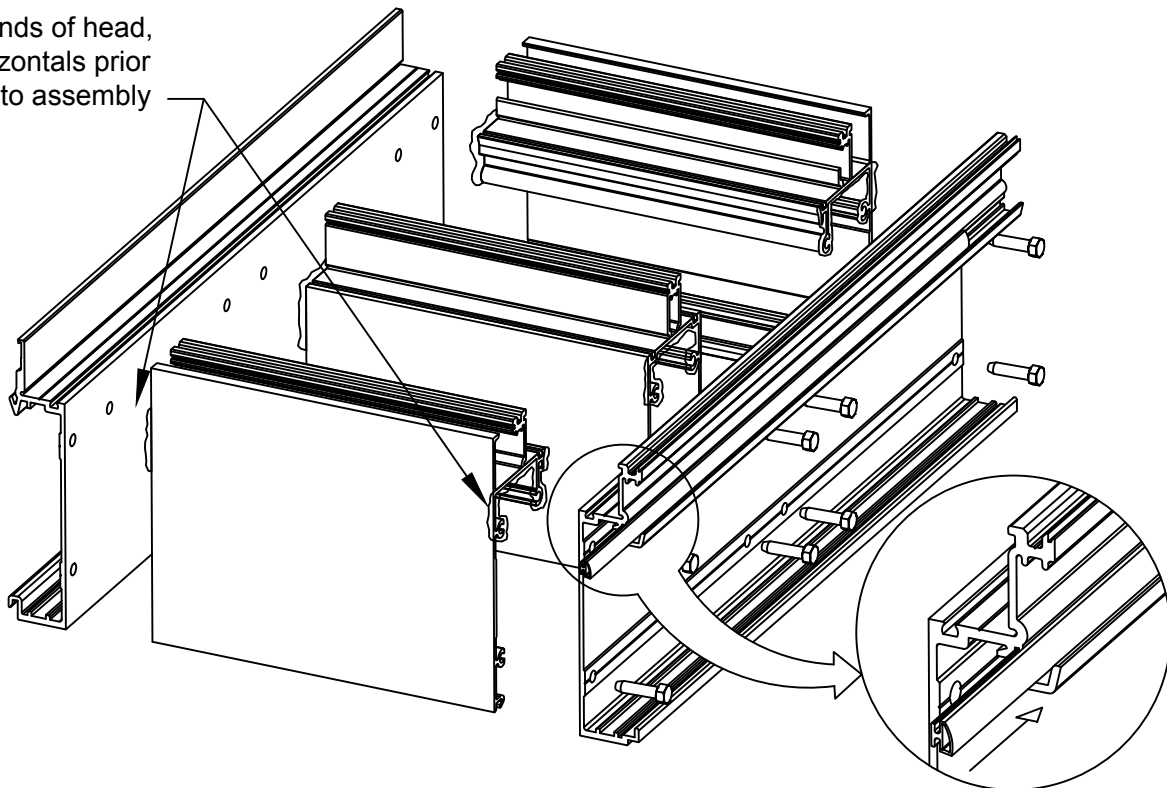

FIGURE 9
- 2.2 Apply sealant to ends of horizontals prior to attaching to verticals. Attach to verticals with FS-8 #14 x 1" Hex Head screw. Three screws are required at each head and sill; four are required at intermediate horizontals. **SEE FIGURE 9, page 13.** Tool excess sealant at horizontal-to-vertical joints.
- 2.3 Install GP-134 bulb gasket into race at center of captured and SSG mullions. Crimp ends of mullion to lock into position. **SEE FIGURE 9, page 13.**